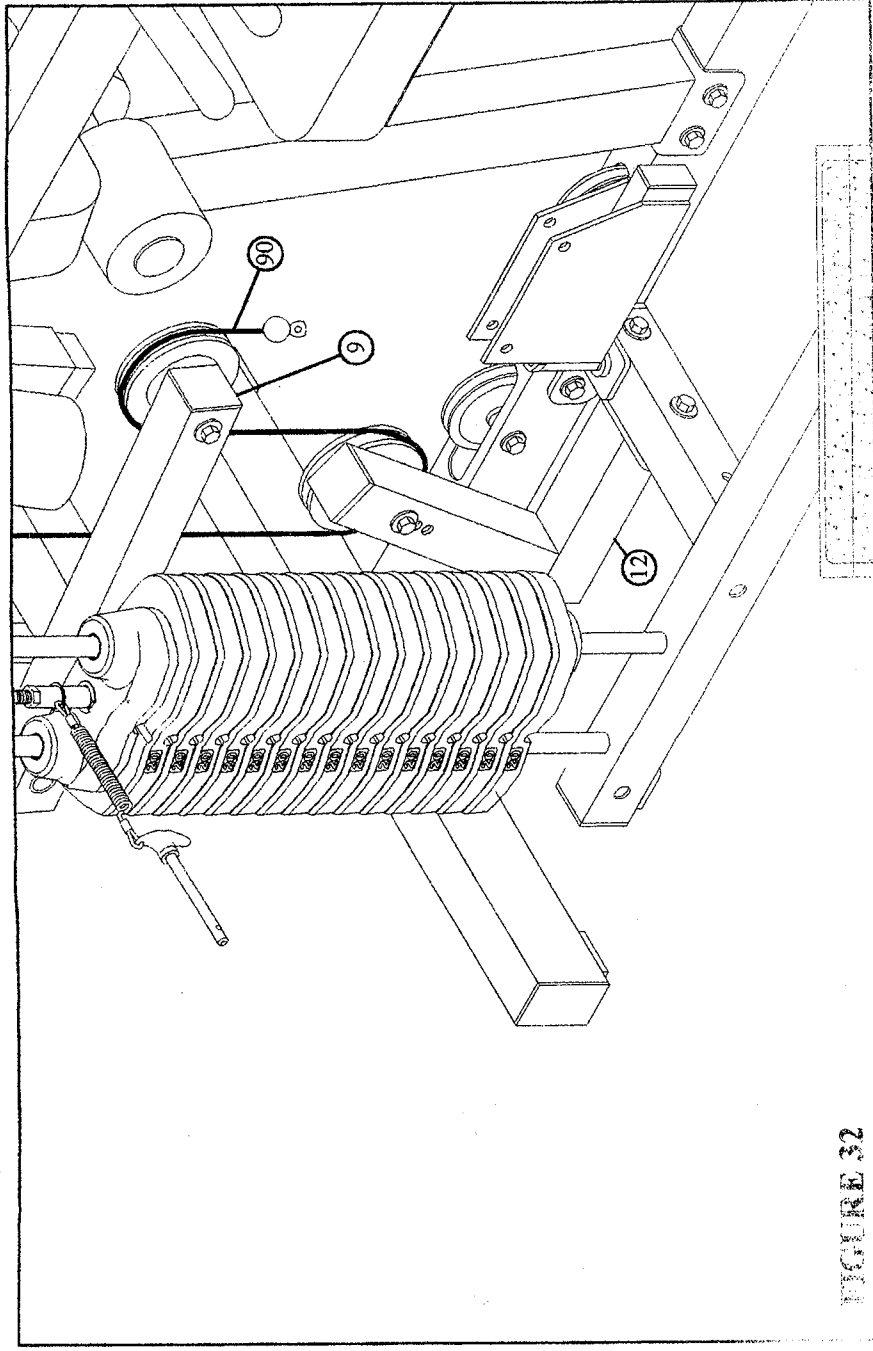

FIGURE 32
- Slide ball end of LEG EXT. CABLE (90) under pulley and cable retaining clip on LEVER STOP (12) as shown in FIGURE 32 (NOTE: The ball holding pulley and cable retaining clip may need to be loosened to align cable retaining clip with cable.)
- Slide ball end of LEG EXT. CABLE (90) under pulley and cable retaining clip on PRESS ARM LEVER (9). (NOTE: The ball holding pulley and cable retaining clip may need to be loosened to align cable retaining clip with cable.)